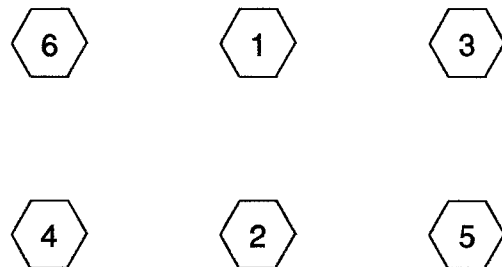

Figure D-2. Head Bolt Torque Sequence
12. Position the gaskets and valve plate on top of the cylinder. Position the head on the cylinder and turn all of the bolts finger tight. Torque in the same manner described in step 11 (See Fig. D-2).